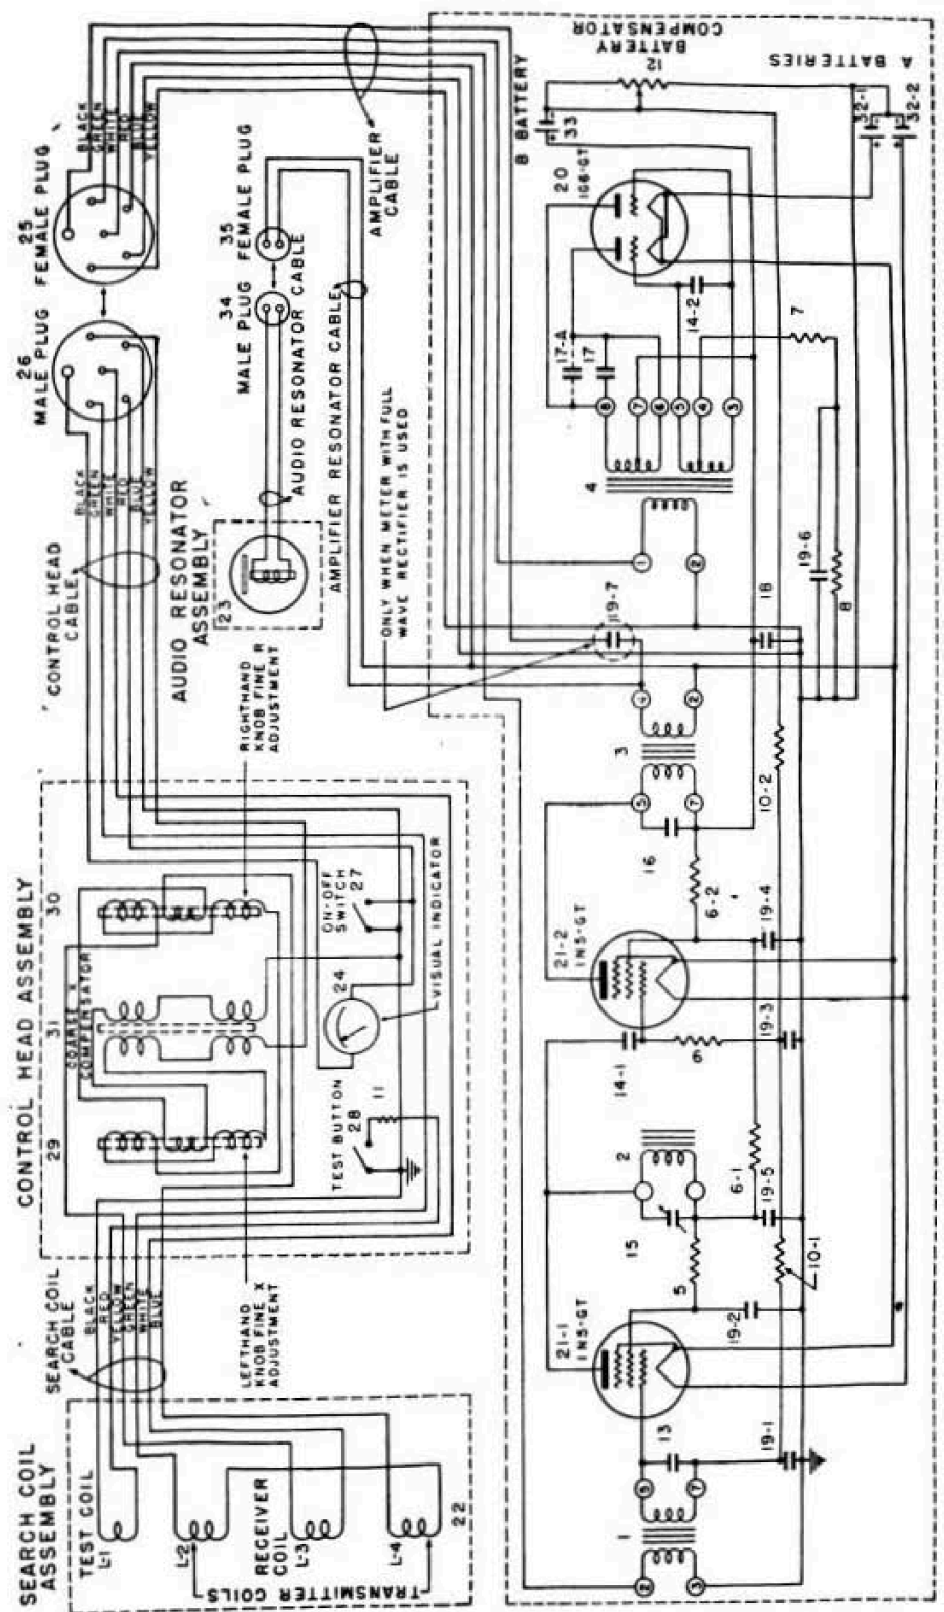
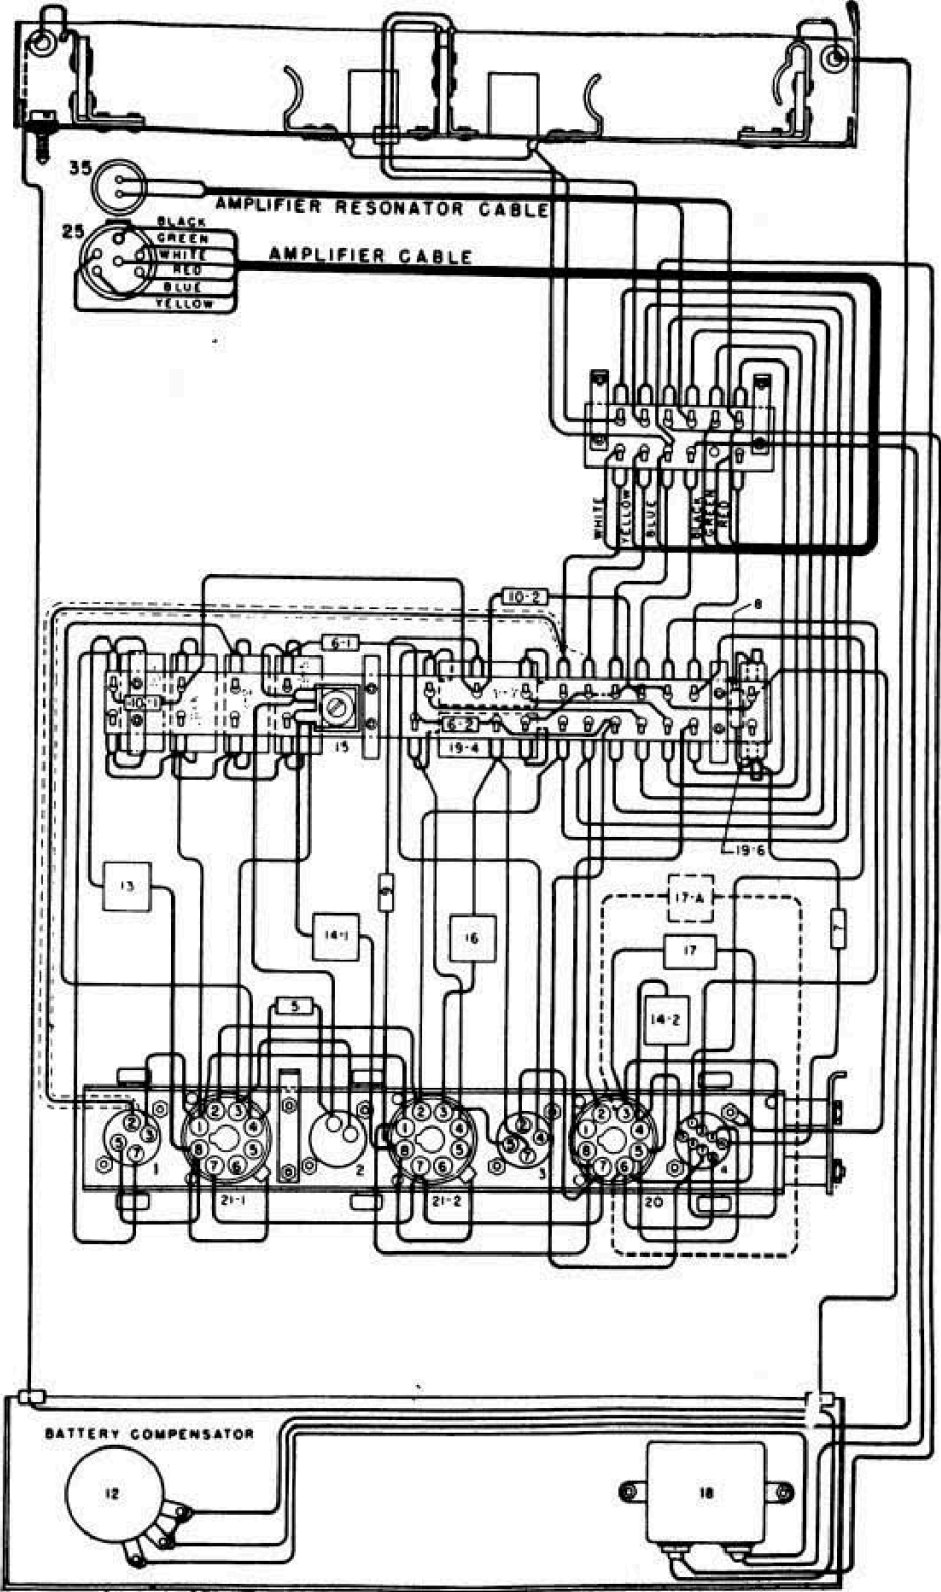

Fig. 16 Detector Set SCR-625-(*), Schematic Diagram
Fig. 17 Detector Set SCR-625-(*), Wiring Diagram
a. To test the oscillator circuit.—Connect a resonator between terminal 1 (counting from left to right) of terminal strip 59, (figure 17), and terminal 2. A 1,000-cycle note in the resonator will indicate that the oscillator is functioning, and that the trouble is in the amplifier circuit. No tone in the resonator will indicate that the oscillator is not functioning. One of the following troubles will usually be the cause of no oscillation:
- (1) Defective tube (20) (fig. 16).
- (2) Broken wiring or loose connection.
- (3) Defective transformer 4.
b. To test amplifier circuit.—Use a Battery BA-30, and connect its terminals *momentarily* to terminals 5 and 6 (counting from the left) of terminal strip 59, (figure 17). A deflection of the output meter will indicate proper functioning of the amplifier.
(1) Connect a wire from terminal 1 of terminal strip 59, and momentarily touch terminal 9 with the other end. This should cause a deflection of the output meter. If there is no indication, test the male (26) and female (25) connectors of the connecting cables, and if they show continuity, replace the output meter.
(2) Substitute a new tube in each socket, and test the amplifier for operation. If the amplifier does not function, look for broken wires and loose connections.
(3) Test transformers and choke windings according to the resistance and continuity table. Check "B" voltage terminals of the transformers for shorts to ground.
(4) With an ohmmeter, check all resistors and capacitors, and the battery compensator (12), following the schematic diagram, (figure 16.)
(5) If all tests fail, replace the whole amplifier chassis with a new one. After any repairs or replacements have been made, always realign the equipment, and readjust the battery compensator (12). See paragraph 26.
a. *To replace search-coil.*—(1) Remove bottom plate (71) of the control box by detaching screws.
e. To replace amplifier transformer.—(1) Unscrew the locking screw (79) on the front panel.
(2) Lift the panel out of box by means of the knob above the locking screw.
(3) Remove the screws fastening terminal strip 58.
(4) Unsolder the leads from terminal strip 59 to terminal strip 58.
(5) Remove the nuts holding the rubber mounts between the chassis and the panel.
(6) Slide the amplifier chassis free of the panel.
(7) Unsolder the leads going to the defective transformer.
(8) Remove the two screws holding the transformer.
(9) Install the new transformer in the same position.
(10) Solder the wires back on the terminals as shown in the wiring diagram (fig. 17).
(11) Slide the chassis back in place on the panel.
(12) Replace nuts on the rubber mounts.
(13) Resolder the leads from the terminal strip according to the wiring diagram. (fig. 17).
(14) Replace the two screws and nuts holding the terminal strip.